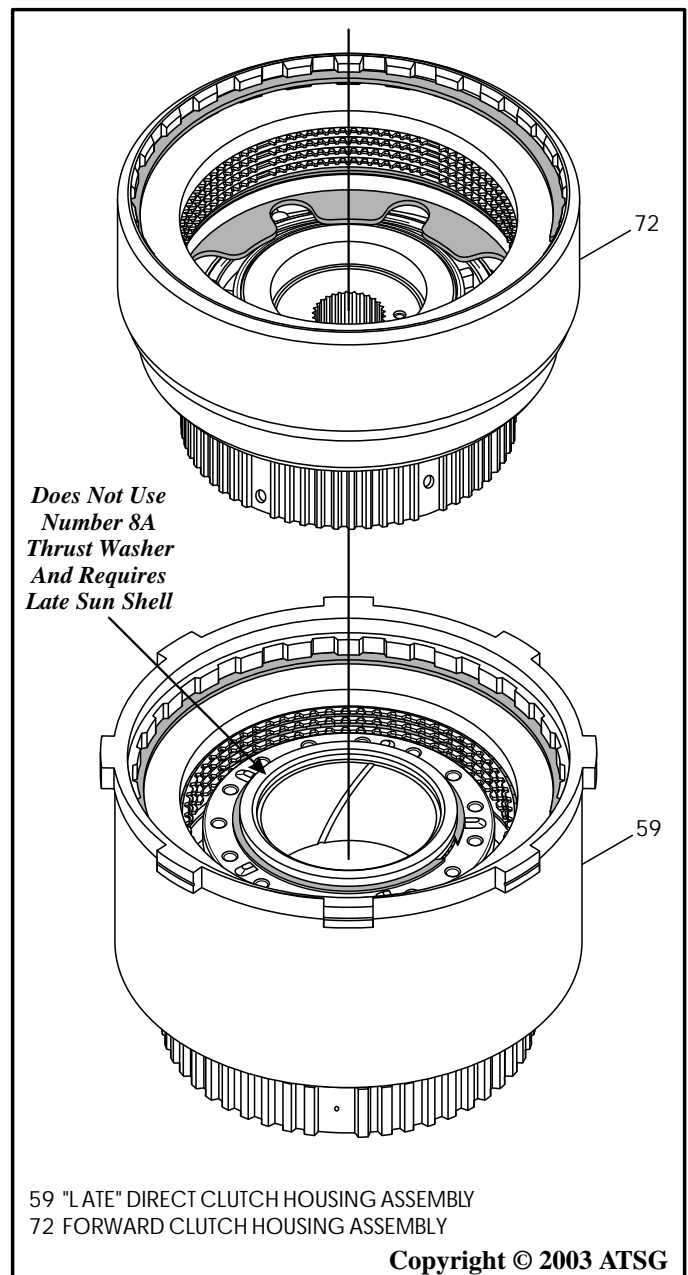

Figure 123
2. Place the completed direct clutch housing on a flat work surface in the direction that is shown in Figure 123.
3. Install the completed forward clutch housing into the completed direct clutch housing by rotating back and forth until fully seated, as shown in Figure 123.